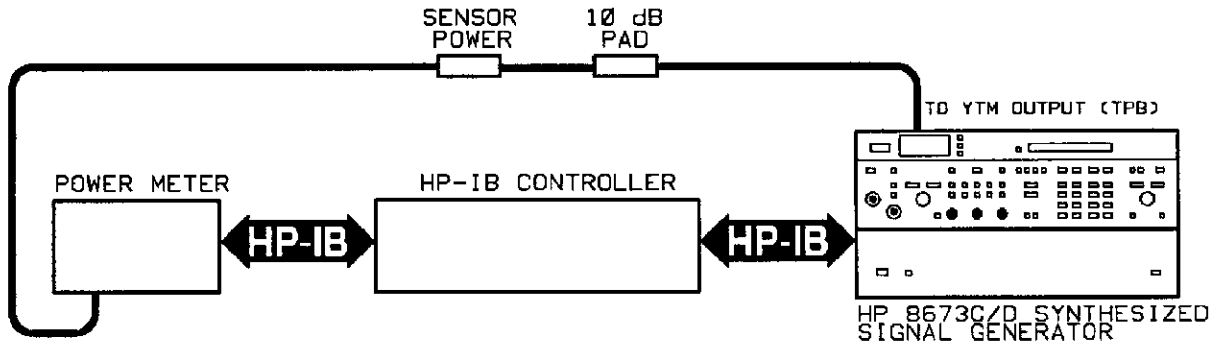

Figure 8-36. YTM Power Output Power Check Test Setup
5. To measure power at TPB, connect the equipment as shown in figure 8-36.